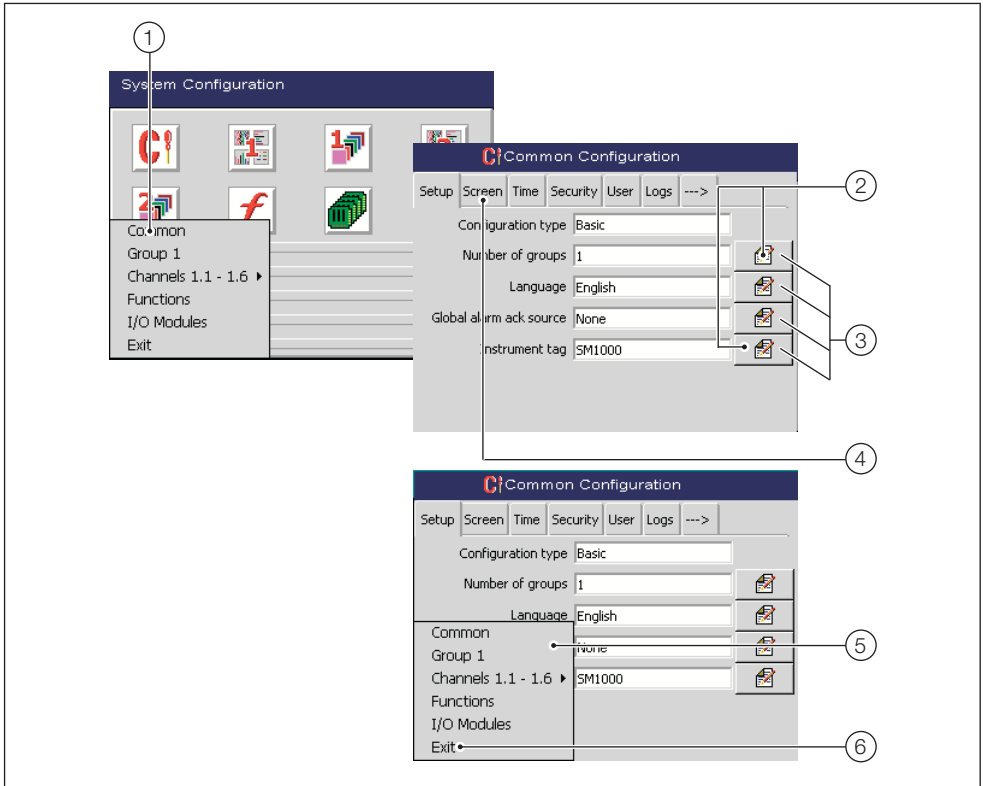

Fig. 6.4 Overview of Configuration Steps
- ④ Locate the inner cover plate lugs in the slots in the outer case and close the inner cover plate.
- ⑤ Tighten the inner cover plate retaining screw and fit a tamper-evident seal (if required).
- ⑥ Close and lock the instrument door and restore the power supply to the instrument.
6.4 Overview of Configuration – Fig. 6.4
Referring to Fig. 6.4, configure the instrument as follows: